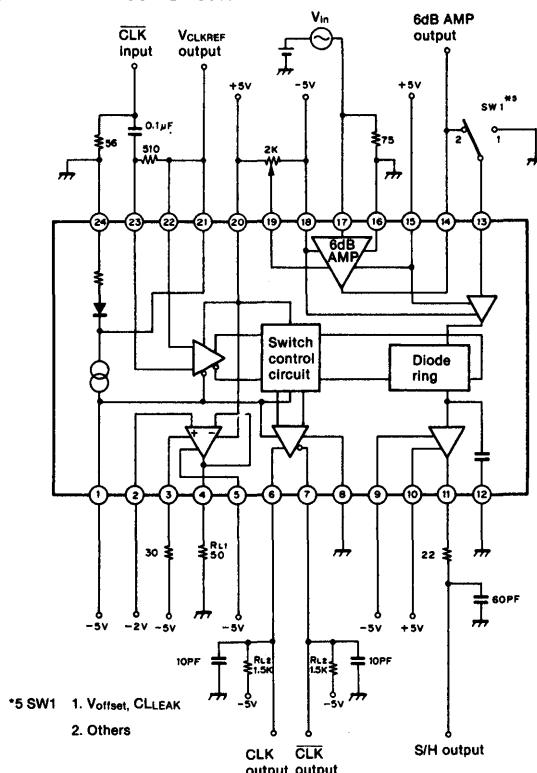

Fig. 3
S/H section (see Fig. 3)
($R_{LI} = 50\Omega$. see Fig. 3)
6dB amp section (see Fig. 3)
*3 2ndary harmonic: -40dB f_{in} = 3.58MHz*4 f_{in} = 3.58MHz V_{in} = 1V_{pp}**CLK OUT section (see Fig. 3)**
-2V_{ref} amp section (see Fig. 3)